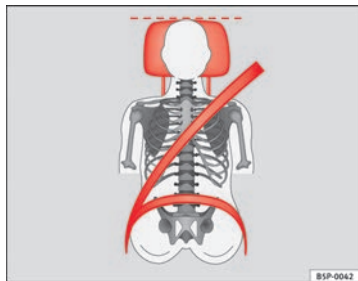
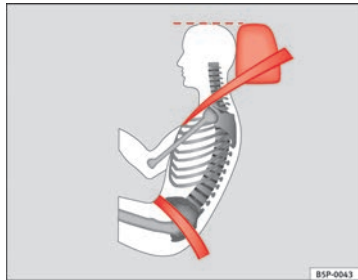

Fig. 3 Correctly adjusted head restraint viewed from the front
Fig. 4 Correctly adjusted head restraint viewed from the side
- Adjust the head restraint so that its upper edge is at the same level as the top of your head, or as close as possible to the same level as the top of your head and, at the very least, at eye level. ⇒ Fig. 3 and ⇒ Fig. 4.